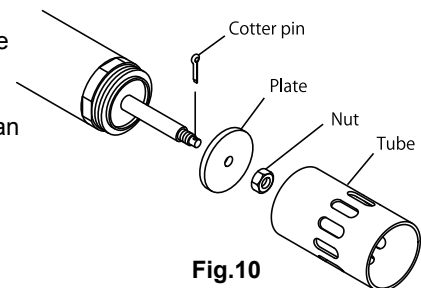

Fig.10
- 4) Pull out the split pin that fixes the plate and unscrew the nut. The plate can be removed. (Fig.10)